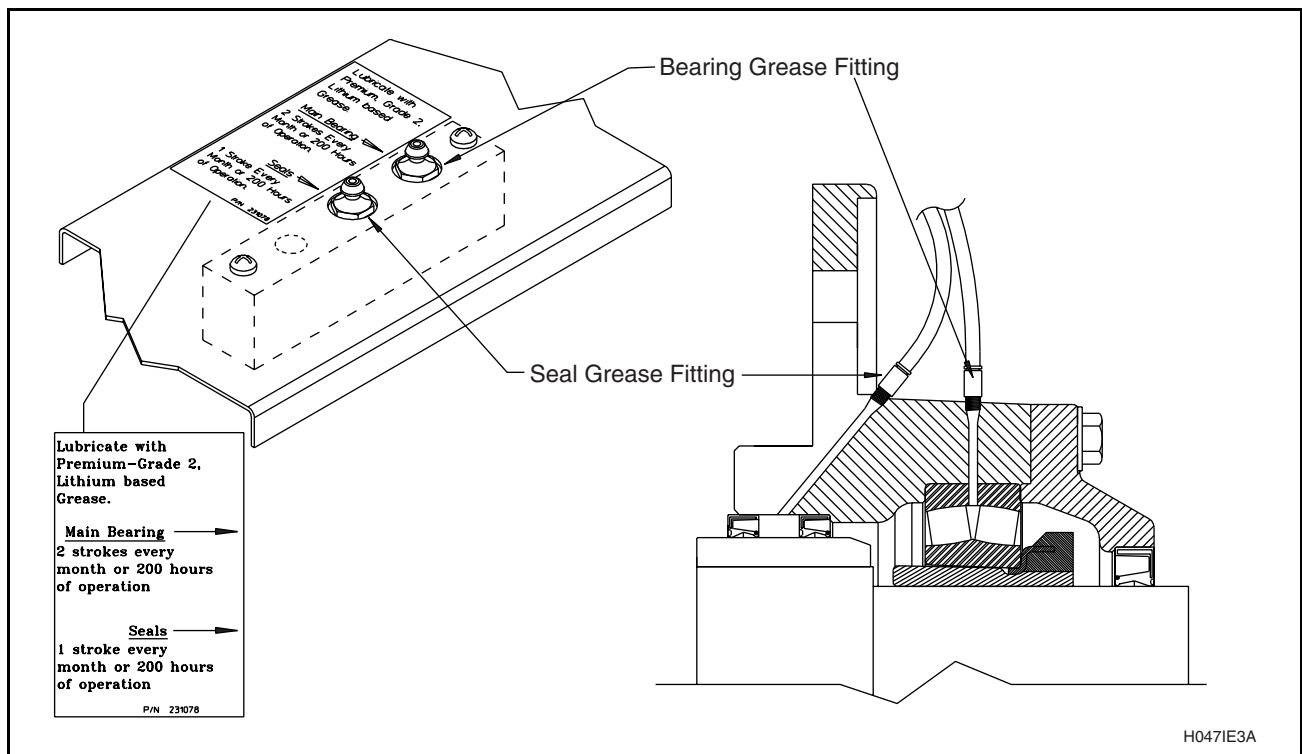

Figure 49
1. **For 80-pound capacity models only**, lubricate bearings and seals each month OR after every 200 hours of operation. See Figure 49.